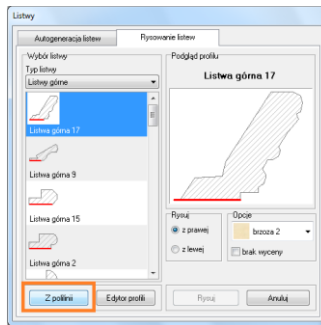

Fig. 235 – Cornices... window, Drawing cornices tab
- Select appropriate cornice type when you select an upper cornice only appropriate profiles will be filtered) in the drop-down list box, then select its profile, and press the **From polylines** button at the left lower corner of the **Cornices** dialog box (Fig. 235).